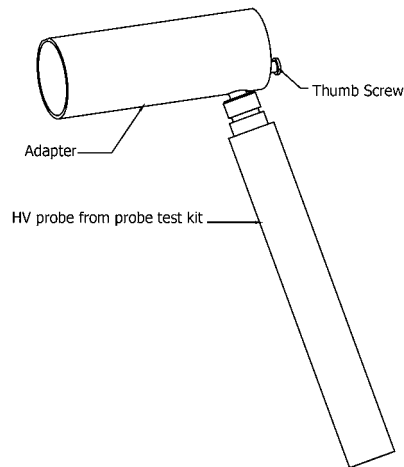

Figure 9: Probe Assembly View
23. Place adapter on end of high voltage probe (see Figure 9).